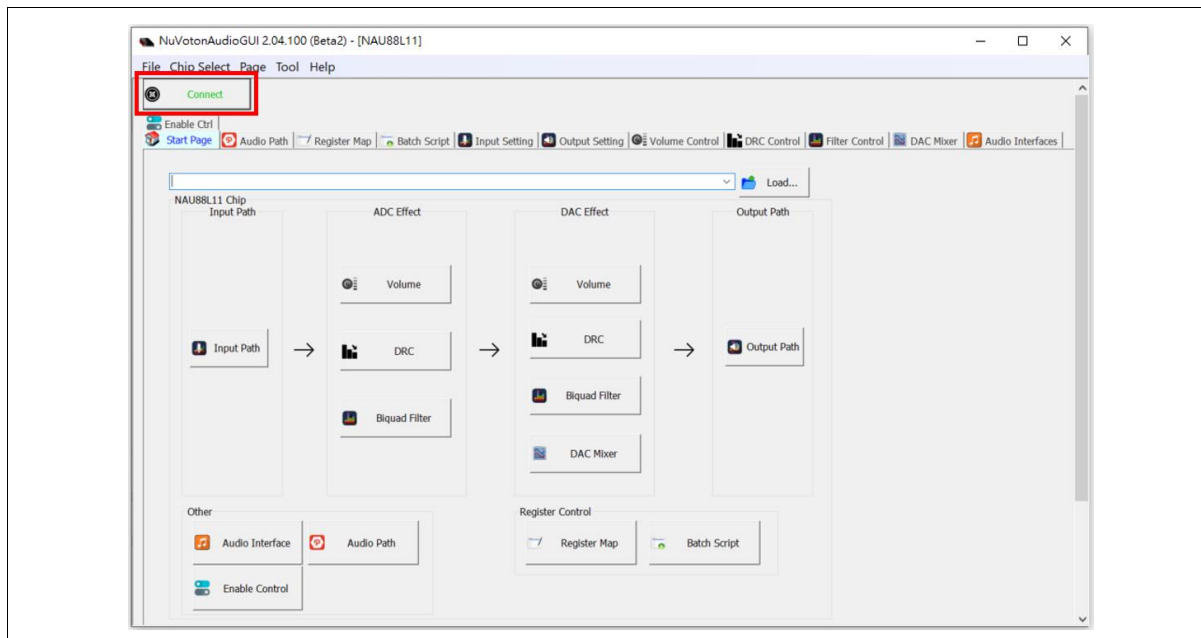

Figure 3-6 NuvotonAudioGUI Operating Step (3)
3. NuvotonAudioGUI will automatically read connection status. If the hardware and software are properly configured, a green [Connect] will appear on the upper left corner of the NuvotonAudioGUI window, as shown in Figure 3-6. Then users can issue I²C commands through NuvotonAudioGUI to control NL-NAU88L11.